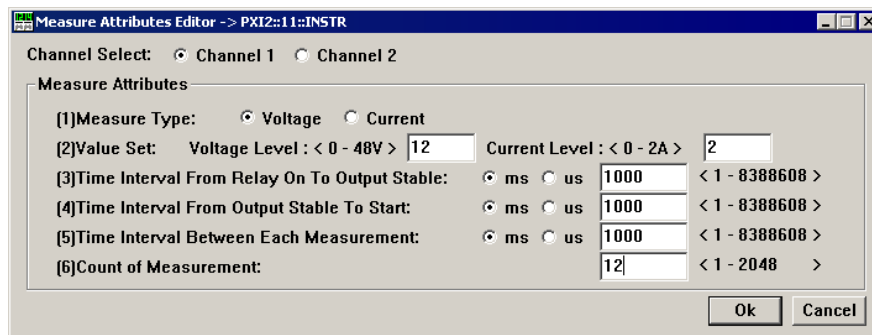

Figure 4-24 Editing Voltage Measurement of Channel 1 for Example 1
Step2: At the menu bar, select **Editor → Measure** to edit the attributes for this measurement set as shown in Figure 4-24, and then click on the “Ok” button.